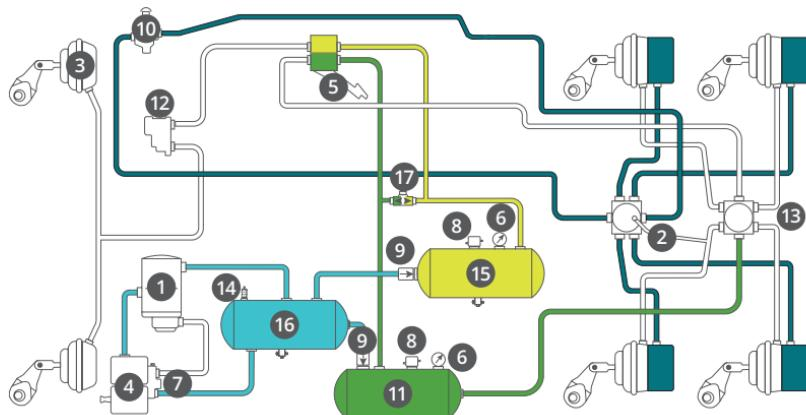

Figure 34. Dual-circuit system with spring parking brakes.
**Note:** An anti-compound line (see Fig. 34) is sometimes installed between the delivery side of the primary circuit relay valve and the control side of the relay valve operating the spring brakes. When a brake application is made, the relay valve operating the spring brakes gets a signal from the service brake to release the spring brakes with the same amount of pressure applied to the service brakes. This prevents service-brake and spring-brake pressure from compounding on the brake linkages.
When spring brakes are added to a dual-circuit system, the same type of dash control valve discussed previously is used (Fig. 34). Blended air is used to supply the control valve. Blended air is taken from the primary and secondary circuits through a two-way check valve.